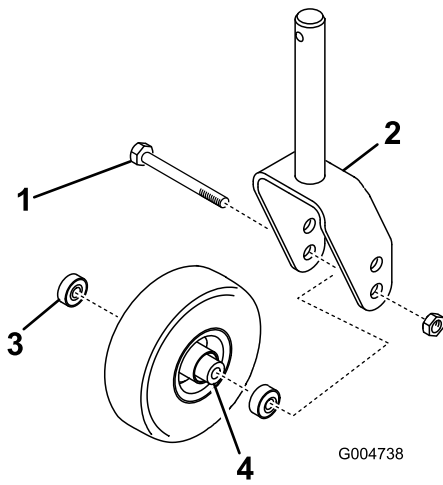
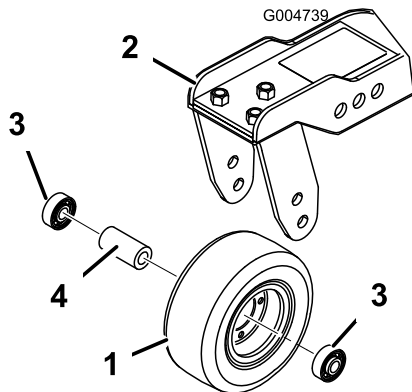

Figure 81
Figure 82
2. Remove the bearing from the wheel hub and allow the bearing spacer to fall out (Figure 81 and Figure 82). Remove the bearing from the opposite side of the wheel hub.